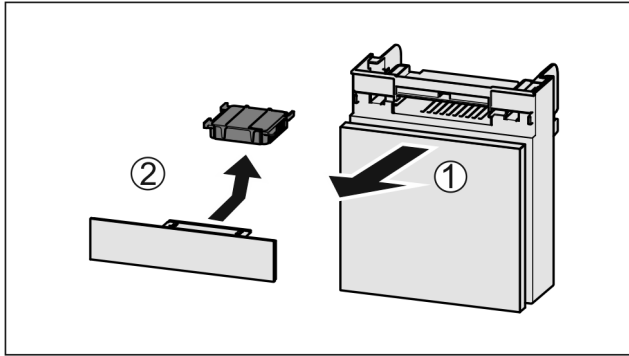

Fig. 57
- ▶ Pull out the compartment Fig. 57 (1).
- ▶ Remove the carbon filter Fig. 57 (2).